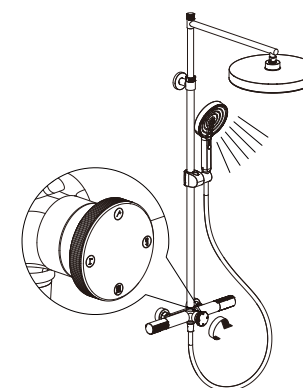

Figure 14B
- ② When the water distribution handwheel indicator "hand shower" (⊕) is at the top, the hand shower is in the water outlet mode, as shown in Figure 14B;